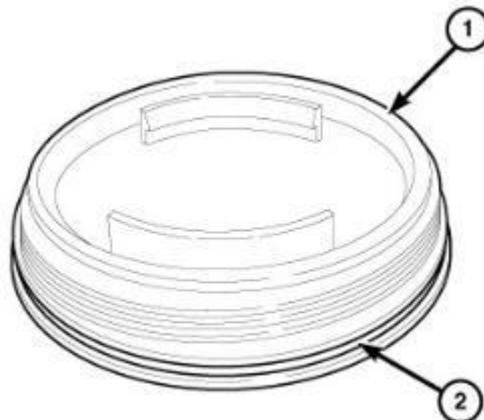

Figure 7 – Filter Cover O-ring
10. Lubricate the **NEW** O-ring seal (2) on filter covers (1) with clean diesel (Figure 7).